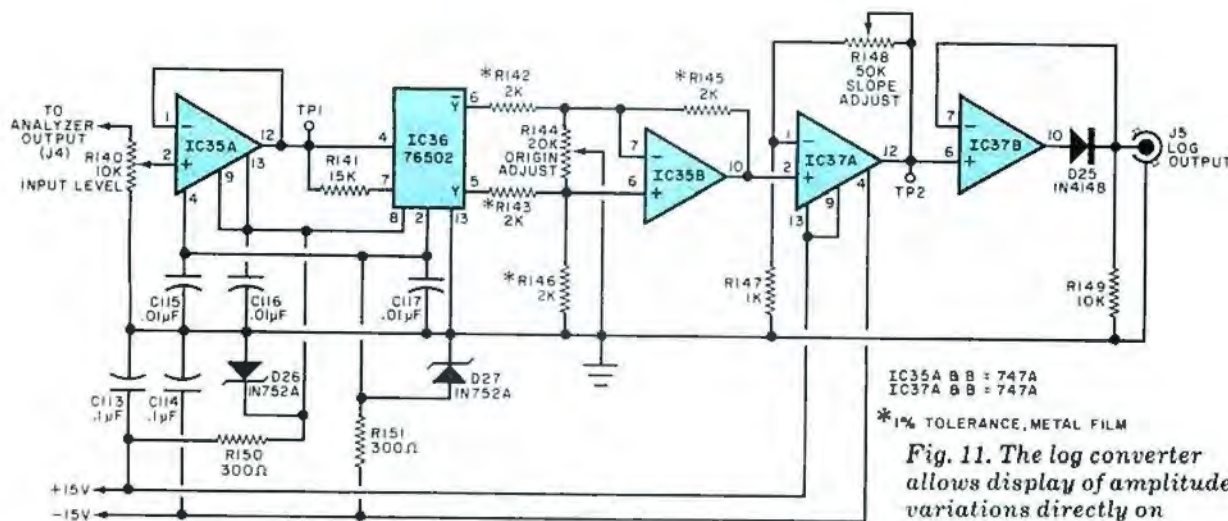

Fig. 11. The log converter allows display of amplitude variations directly on the scope in decibels.
**The Log Converter**, shown schematically in Fig. 11, is a useful accessory which allows display of amplitude variations on the scope directly in dB. The heart of this linear-to-logarithmic converter is IC36, a 76502 integrated circuit. One half of IC35A is used as a buffer for log converter IC36. This buffer is powered by a bipolar 5-volt supply, so its output (and thus the input to IC36) is limited to +5 volts maximum. The ORIGIN ADJUST control (R144) and op amp IC35B determine the amount of dB per division of scope display. Stages IC37A and IC37B provide gain and rectification, respectively. The rectifying action of IC37B prevents any negative voltages from reaching the scope's vertical input. However, "negative" outputs are generated by IC36 whenever its input signal drops below the ORIGIN level.